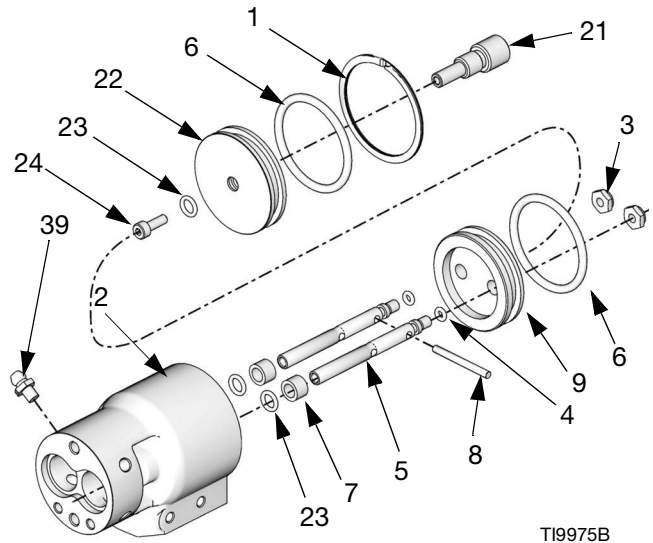

FIG. 8
7. Remove the retaining ring (1) from the back of the air cylinder (2). Push the two shafts (5) into the air cylinder (2) to dislodge the air cylinder cap (22). See FIG. 8.
8. Push the two shafts (5) to dislodge the piston (9) assembly from the air cylinder (2).
9. Use an o-ring pick to remove the o-rings (23) and use a screwdriver to remove the sleeve bearings (7) from the air cylinder (2).
10. Remove the o-rings (6) from the piston (9) and air cylinder cap (22).
11. Remove the screw (24) and snuff-back adjustment knob (21) from the cap (22). Use an o-ring pick to remove the o-ring (23).
12. Remove the lock nuts (3), the pin (8), o-rings (4), and piston o-ring (6) from the shaft (5).
1. Lubricate the shaft o-rings (23) and the bearings (7). Insert o-rings into the air cylinder (2) and air cap (22) cavities. See FIG. 8.
6. **255179 and 255181**, Insert the seals (26) with the springs facing into the fluid housing (14).
7. See **Nose Piece Orientation** on page 7. Install the nose piece (31) with the o-rings (20), seats (27), and nose piece screws (19). Tighten the nose piece screws to 115-120 in-lb (14-15 N•m).
8. **255181 and 255182**, Install injector tube (30) with assembly tool (48). Torque to 40-50 in-lb (4.5-5.6 N•m).
9. **255181 and 255182**, Install injector tip (47) and torque to 25-30 in-lb (2.8-3.4 N•m).
10. Remove zerk grease fitting (39). Fill grease in the grease port below until grease begins to exit where the zerk grease fitting (39) was located. Repeat for the other zerk grease fitting (39). See FIG. 8.